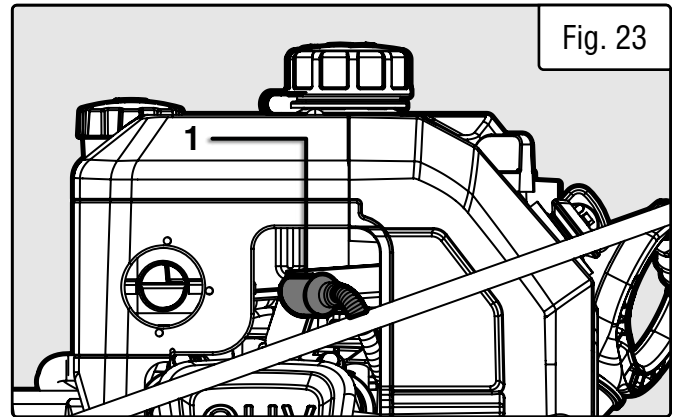

Fig. 23
1. Gently pull on the spark plug boot (Fig. 23 - 1) to remove it. Be careful not to tear insulation or wire.